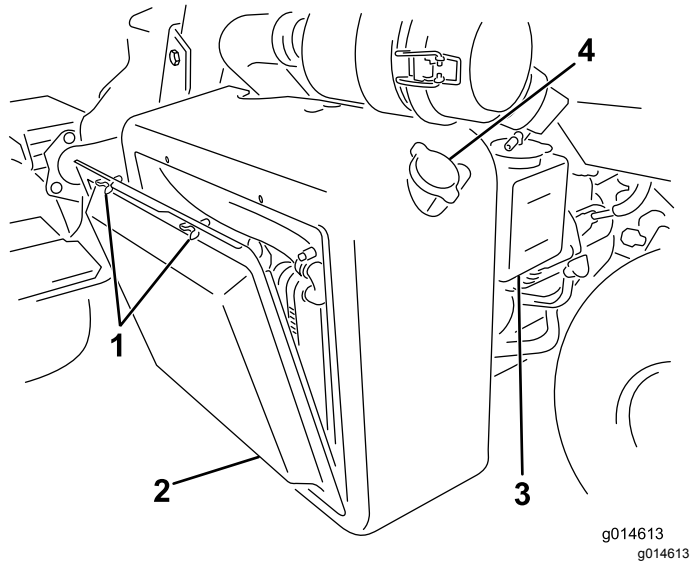

Figure 50
1. Remove the radiator screen (Figure 50).